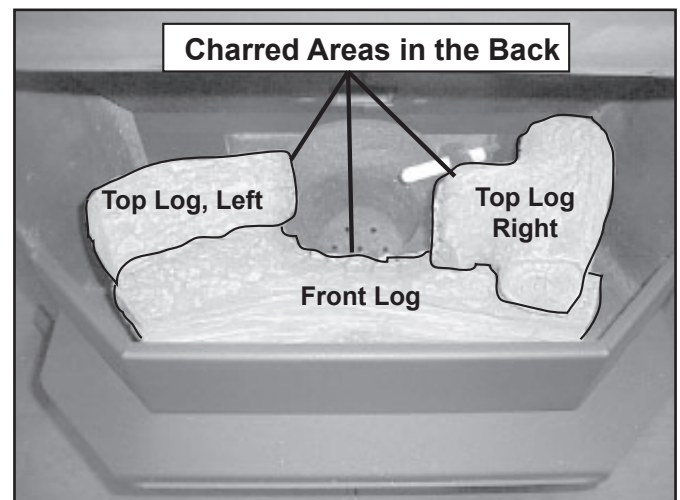

Figure 23.3
2. Set the left and right logs onto the front log, placing the holes in the base of the left and right logs over the locating pins in the front log (**See Figure 23.3**). Ensure that the charred ends are facing the fire pot.